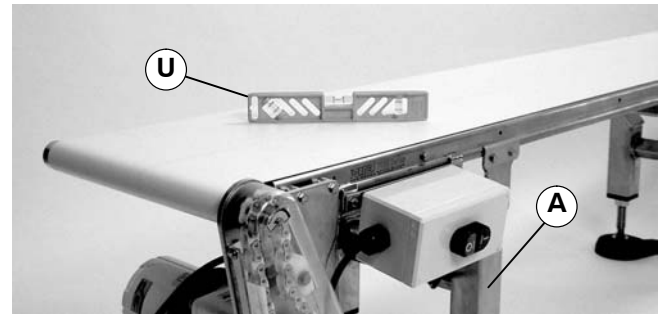

Figure 10
2. Using an adjustable wrench on foot stem flats (T), rotate foot stem to raise or lower stand (A) to the required height.
4. Level stand (A) from side to side using a level (U of Figure 10).